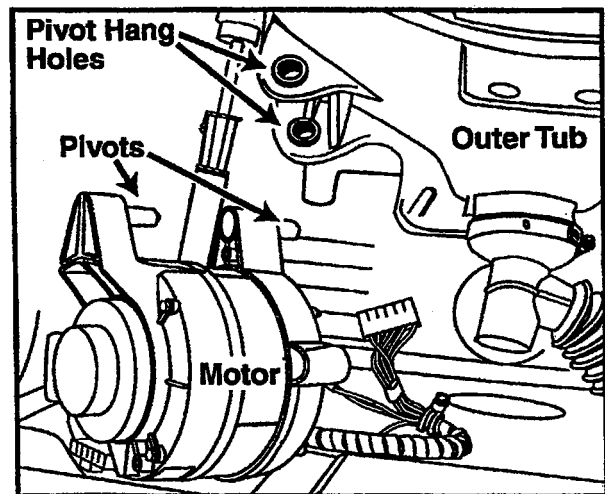

Figure 2-59
4. Lift the motor slightly to disengage the belt from the motor pulley. Grasp the motor and slide it carefully from the pivot hang holes in the outer tub. Place motor on the base frame (*Figure 2-59*).